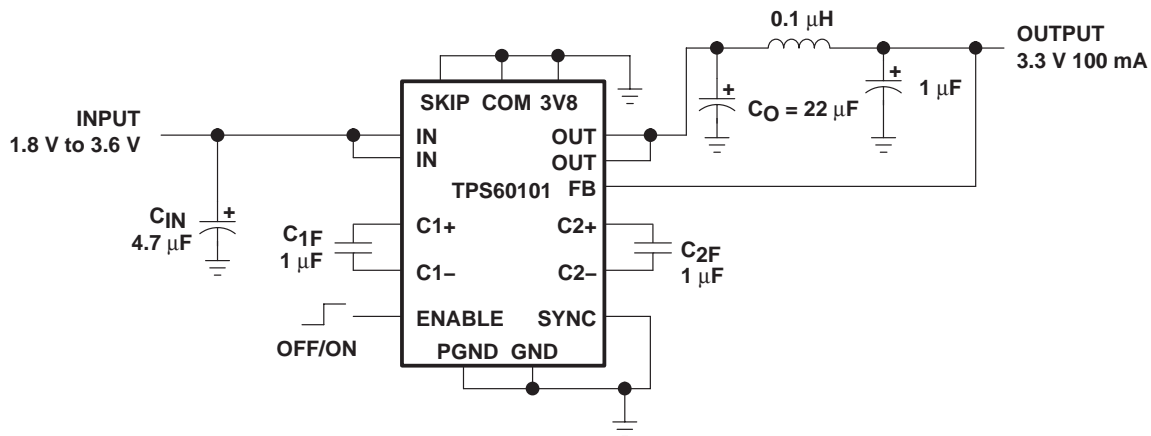

Figure 34. TPS60101 With LC Filter for Ultra Low Output Ripple Applications
For applications where extremely low output ripple is required, a small LC filter is recommended. This is shown in Figure 34. The addition of a small inductor and filter capacitor will reduce the output ripple well below what could be achieved with capacitors alone. The corner frequency of 500 kHz was chosen above the 300 kHz switching frequency to avoid loop stability issues in case the feedback is taken from the output of the LC filter. Leaving the feedback (FB) connection point before the LC filter, the filter capacitance value can be increased to achieve even higher ripple attenuation without affecting stability margin.